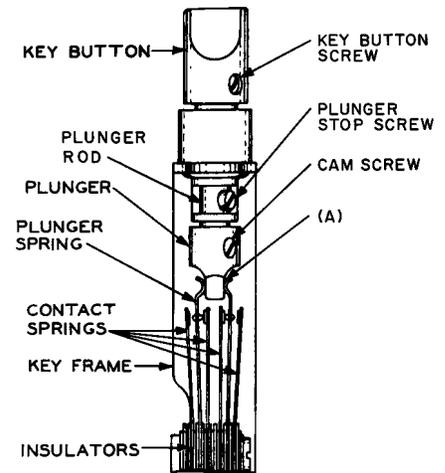

Fig. 5—Typical of 552- and 585-Type Key Equipped with 3-Piece Plunger
(b) Fig. 5(B)—There shall be a clearance between springs designed to make contact when the contacts are closed off:
Fig. 5(A)—Both plunger springs shall rest against the plunger in the unoperated position and it shall not be possible to break this contact between the plunger and the plunger springs by taking up the side thrust or backlash in the plunger.
(b) **585-, 596-, 624-, 630- and 650-Type Keys:** Fig. 5(A) and 10—Both plunger springs shall rest against the plunger in the unoperated position.